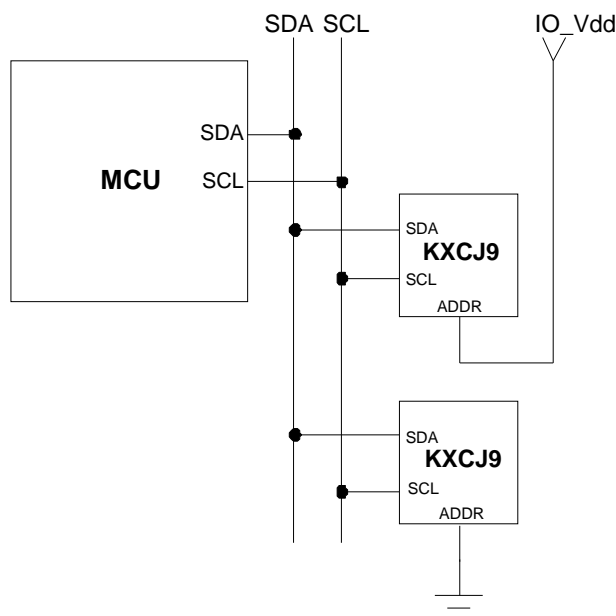

Figure 1. Multiple KXCJ9 I²C Connection
Transactions on the I²C bus begin after the Master transmits a start condition (S), which is defined as a high-to-low transition on the data line while the SCL line is held high. The bus is considered busy after this condition. The next byte of data transmitted after the start condition contains the Slave Address (SAD) in the seven MSBs (Most Significant Bits), and the LSB (Least Significant Bit) tells whether the Master will be receiving data '1' from the Slave or transmitting data '0' to the Slave. When a Slave Address is sent, each device on the bus compares the seven MSBs with its internally stored address. If they match, the device considers itself addressed by the Master. The KXCJ9's Slave Address is comprised of a programmable part and a fixed part, which allows for connection of multiple KXCJ9's to the same I²C bus. The Slave Address associated with the KXCJ9 is 000111X, where the programmable bit, X, is determined by the assignment of ADDR (pin 8) to GND or IO_Vdd. Figure 1 above shows how two KXCJ9's would be implemented on an I²C bus.